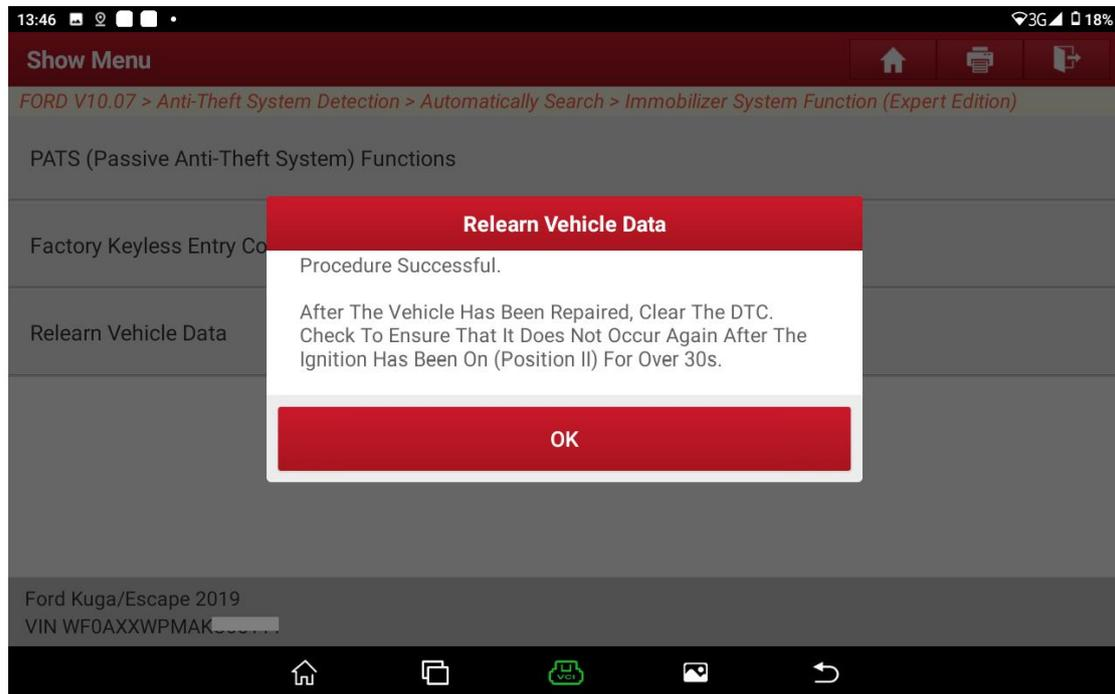

Figure 22
20. Execution is successful. See Figure 22.